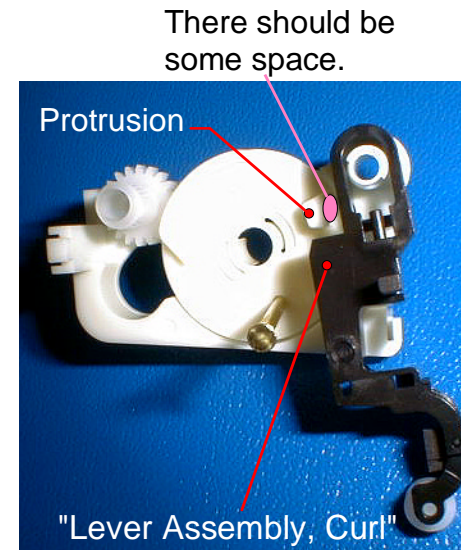

Figure 4-144. Setting "Lever Assembly, Curl(1)"
4. Insert "Lever Assembly, Curl" to the axis on the "Holder, Lever, Curl", placing "Lever Assembly, Curl" vertically, as it is shown in figure4-144. After inserting, make sure that some space is left between "Lever Assembly, Curl" and the protrusion on the "Gear,24", as it is shown in figure4-144.